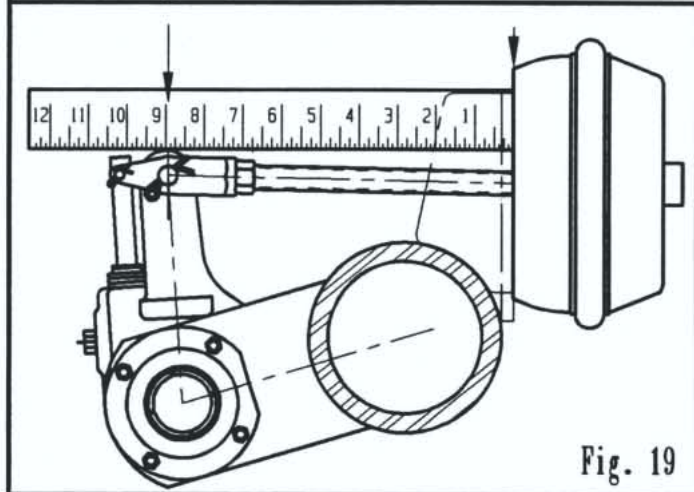

Fig. 19
3. Again, measure the distance from the bottom of the air chamber to the center of the clevis on all wheels. See Fig 19.